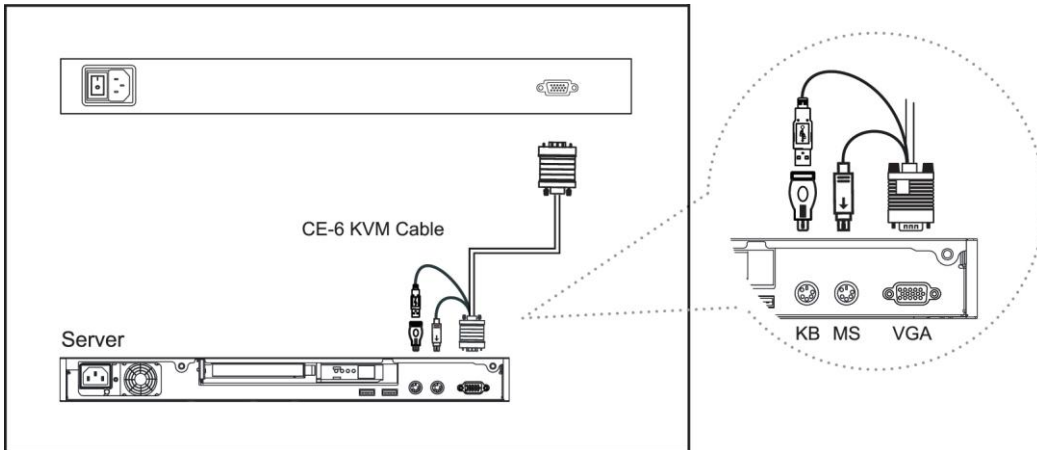

**Figure 6.** Operating the LCD keyboard drawer
- Operate the LCD keyboard drawer. (shown in **Figure 6**).